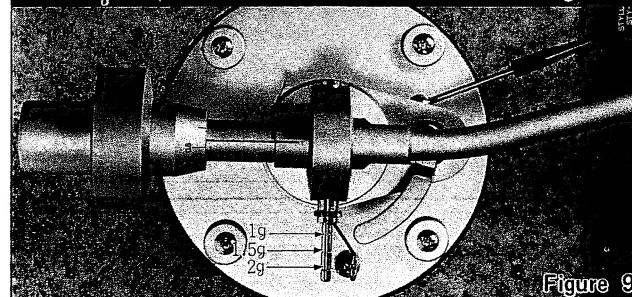

Figure 9
7. Mount the weight on the inside force canceller (anti-skating device). Hook the weight on the groove of bar according to the stylus pressure. (Refer to figure 9)